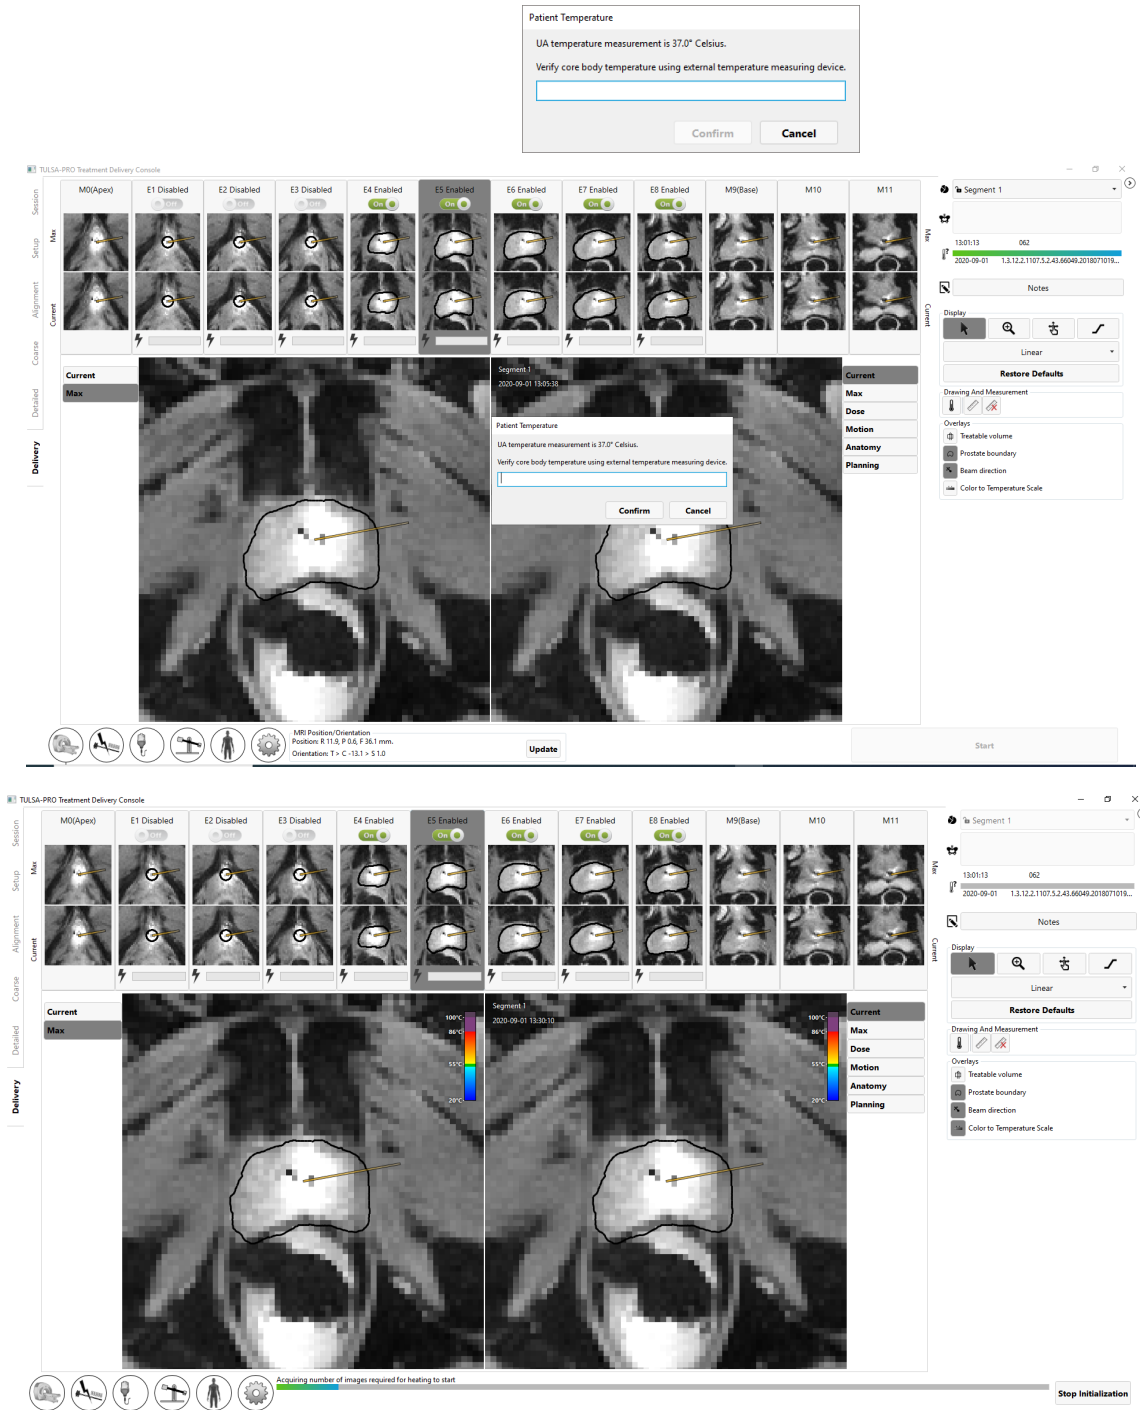

Figure 42: Treatment Initialization state
3. **Radiologist:** Click **Start treatment** on TDC. It will prompt you to verify the core body temperature using an external temperature measurement device before proceeding (10). Enter the temperature in degrees Celsius and click **Confirm**. The TDC will go into **Treatment Initialization** state and is now ready to receive thermometry images (*Figure 42*).